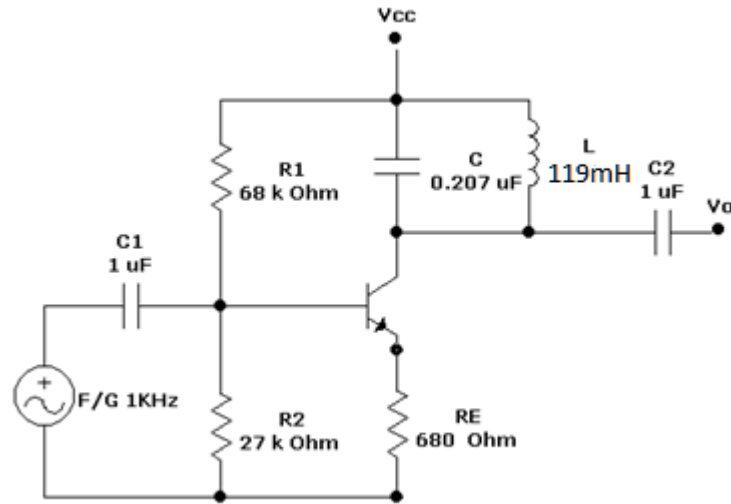

Figure 2: Simple Tuned Amplifier
When an amplifier circuit has its load replaced by a tuned circuit, such an amplifier can be called as a Tuned amplifier circuit. The basic tuned amplifier circuit looks as shown in figure 2.
1. Connect the circuit as shown in Figure 2.